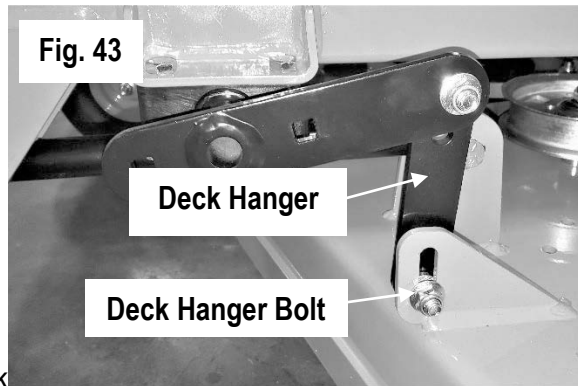

Fig. 43
4. Using a pair of 9/16" wrenches, loosen all deck hanger bolts on the top of the deck. These are the lower bolts in the slots of the deck as shown in Fig. 43. Do not loosen the upper bolts that attach the deck hangers to the actuator lift bars.